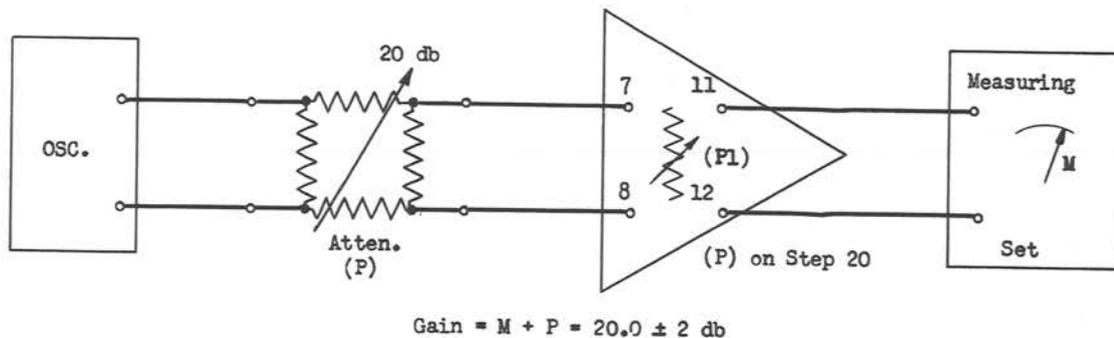

Fig. 4 - 106A Amplifier Gain Testing Arrangement - 10,000-ohm Input - 600-ohm Output - Maximum Gain
(1) Reconnect the input of the amplifier and adjust attenuator P for 20 db loss as indicated in Fig. 4.
(2) Obtain reading (M) on measuring set.